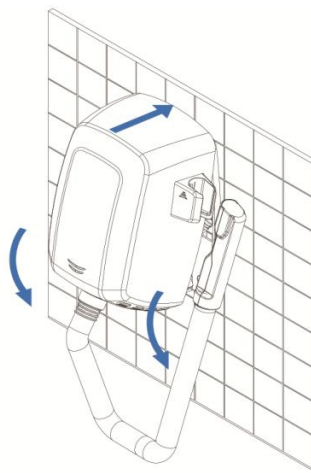

Fig. 10
- Place the screws for fixing the casing to the base, fixing them tightly using the special spanner provided (Figure 10).